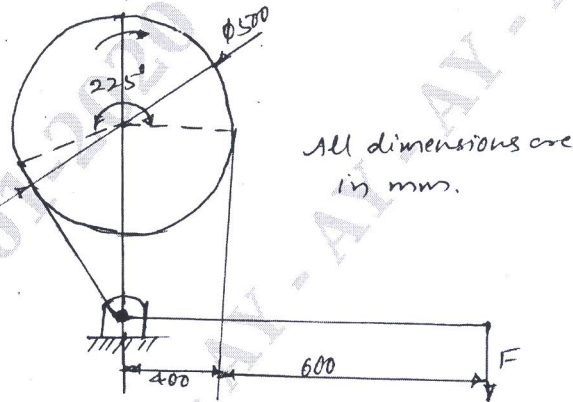

Fig.Q4(b)
- b. A simple band brake as shown in Fig.Q4(b) is to be designed to absorb a power of 30 kW at a rated speed of 750 rpm. Determine: